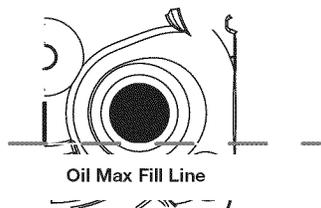

Fig. 14
5. Look into the oil fill hole, use a flashlight if needed. The oil should be just touching the inner most thread (Fig. 14).
NOTE: Use the bottle and spout saved from initial use to measure the correct amount of oil. The top of the label on the bottle measures approximately 3.04 fl.oz. (90 ml) (Fig. 18). Check the level, See Checking the Oil Level. If the level is low, add a small amount of oil and recheck. Do not overfill (Fig. 14).